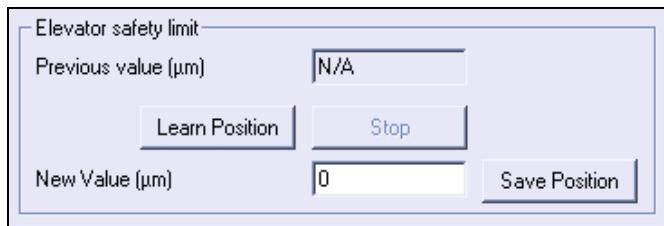

Figure 6.8 Setting the Elevator Safety Limit
2. Go inside the [Settings] menu and click on the **Stage Settings** tab. Refer to Figure 6.8 for an illustration of the **Stage Settings** tab contents.